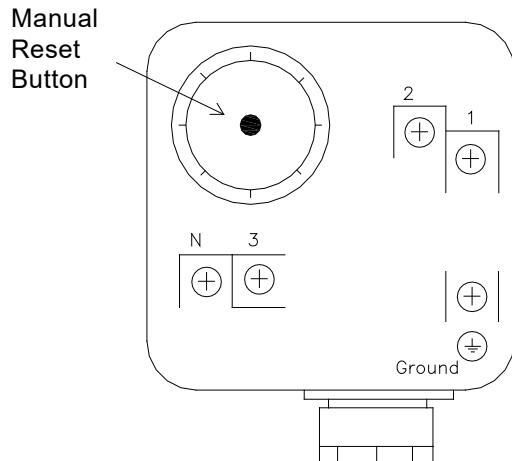

Figure 27: High/Low Gas Pressure Switch
10. If the high or low gas pressure switch tripped, it must be manually reset before the appliance can be restarted. (See Figure 27)